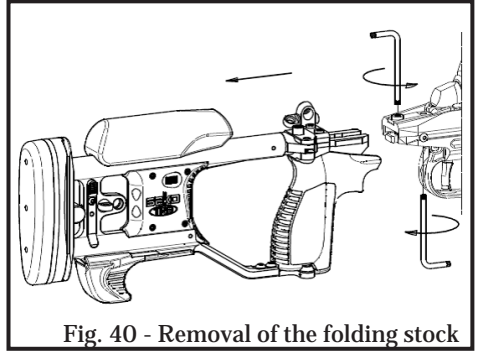

Fig. 40 - Removal of the folding stock
1. Loosen the top screw located in the top side behind the receiver by 1-2 turns with a T25 Torx key (Fig. 40).